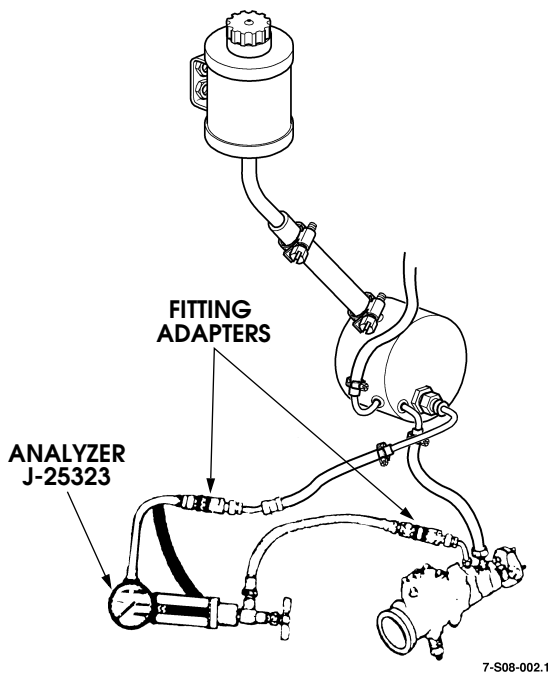

Figure 8-30: Analyzer Pressure Test Connections
Power steering system performance can be checked with analyzer set J-25323 and hose fitting adapters J-33141. The analyzer checks flow in gallons per minute (gpm) and min/max pressure in psi. Analyzer hose connection is shown in Figure 8-30. Procedure is as follows.
3. Connect J-25323 analyzer hoses to pump and gear (Figure 8-30). Use fitting adapters J-33141 to connect hoses to gear and pump as needed.